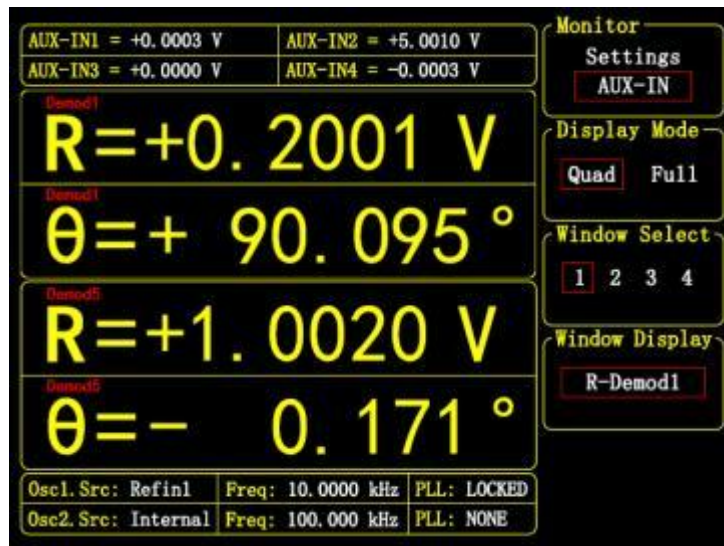

Figure 57. <AUX\_N> Interface
- <AUX\_1N>: Displays real-time input voltage amplitudes of the four BNC interfaces on the rear panel AUX\_1N within the status bar above the LCD screen. The interface is shown in Figure 57: